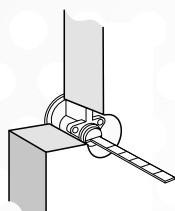
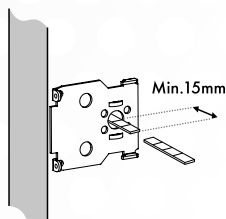

Fig. 2
Fig. 3
2. With the key removed, insert the cylinder through the cover ring (ensuring the washer goes behind the assembly to protect the door surface) and place in the hole, ensuring the cylinder is mounted from the external side (Fig.2). Holding the mounting plate to the inside face of the door and check the projection of the flat spindle so that it projects minimum of 15mm beyond the door surface. If required, cut to size with a fine toothed hacksaw (Fig.3).